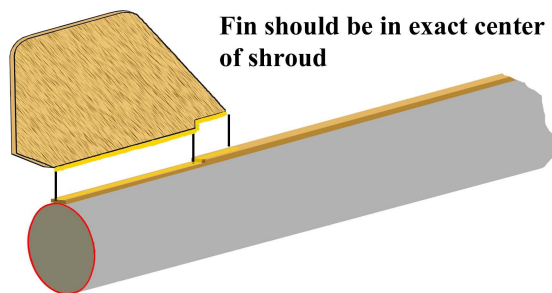

Figure 7
- **Step 14** Apply a narrow bead of glue to the **root edges** of a main fin, and to the matching area on top of one of the conduit shrouds. Attach the main fin to the shroud as shown in Figure 7. The fin should be aligned exactly half-way between the sides of the shroud, and the trailing edge of the root edge should be even with the rear edge of the shroud. Smooth down the glue that squeezes out with a moist hobby brush. Slide at least two of the alignment guides onto the body tube from the top, and locate them at 1" and 1.5" from the rear of the tube. Adjust the angle of the fin carefully to set the proper alignment. Give this fin about 20 minutes to dry, then remove the guides. Repeat this sequence for each of the remaining fins.